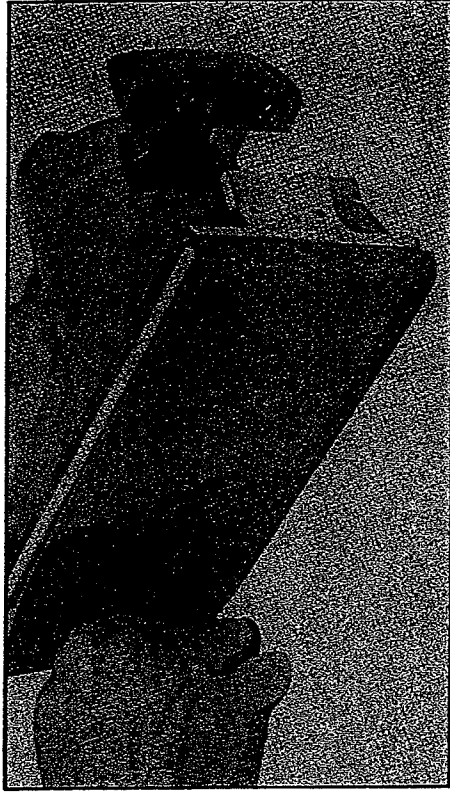

Fig. 3
2. Stretch abrasive sheet tight over pad, as shown in Fig. 3, and bend up over pad edge.